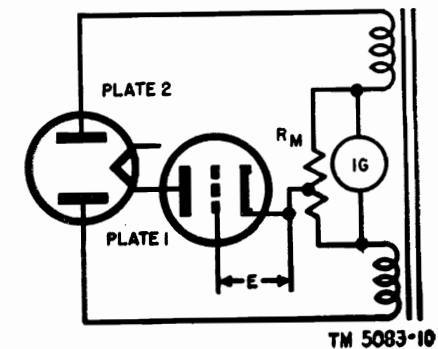

Figure 11. Basic mutual conductance circuit.
*b.* If the tube to be tested is substituted for the fixed load resistance and a fixed bias  $E$  is applied to the tube (fig. 11), the meter will still read zero because the tube under steady-state conditions acts like a fixed resistance.